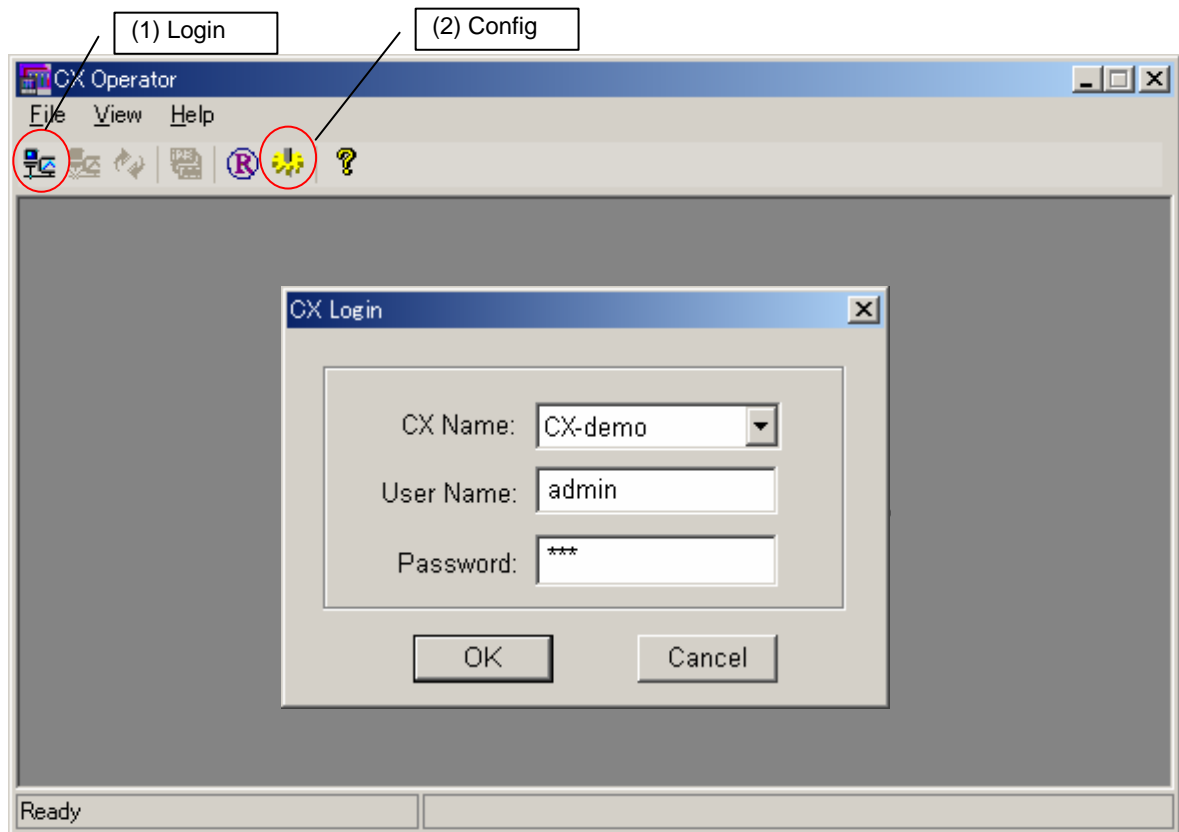

Figure 2 CX IP address setting
Set communication cycle between CX and "CX Operator": click (2) icon in figure 2 or select "Config" from file menu. Unit for communication cycle is m sec.